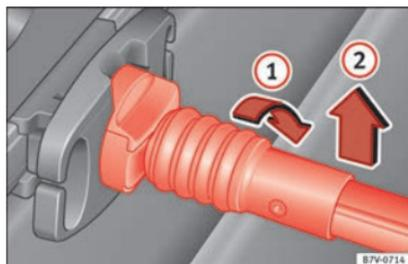

Fig. 171 Release the baggage net
- Rotate the attachment rod 90° to the right » » » Fig. 171 ① until you can see the red mark on the rod. Pull the attachment rod upwards ②.